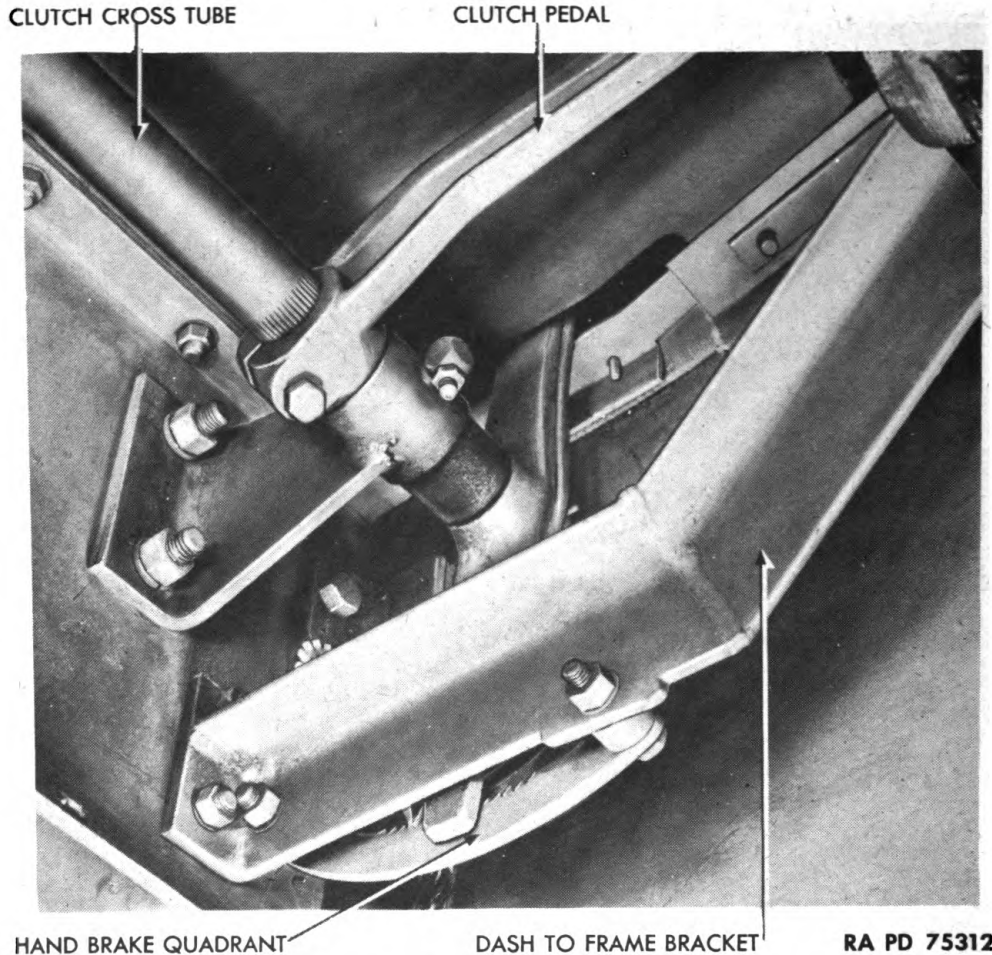

Figure 11 — Dash to Frame Bracket
d. **Remove Dash to Frame Bracket** (fig. 11). Remove two bolts, nuts, and lock washers that hold left dash to frame bracket to frame, and remove bracket (with dash left filler plate and hand brake quadrant). Disconnect adjustable rod at clutch throw-out shaft and at clutch cross tube.